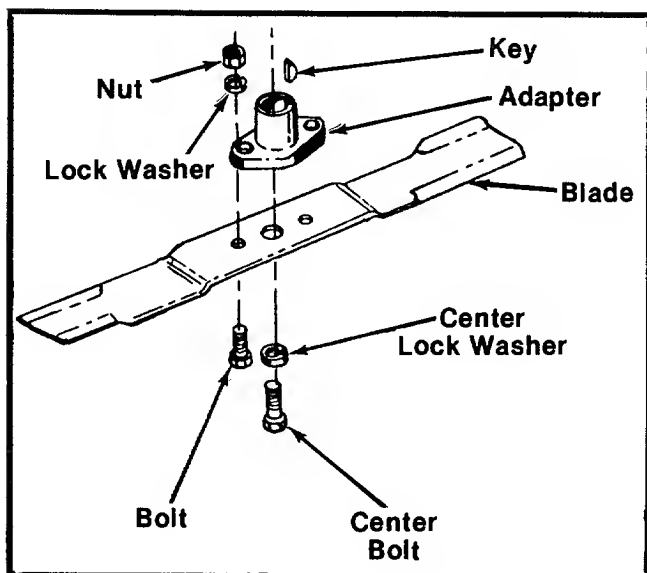

FIGURE 22.
3. Be careful not to lose the key on the crankshaft. See figure 22.
4. Remove the two smaller bolts, lock washers and nuts holding the blade to the adapter. See figure 22.